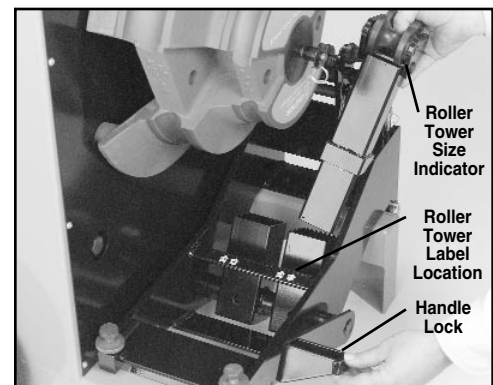

Figure 3
2. Select proper roller tower; the size is indicated on roller tower. To install, lift and hold the handle lock. Insert the roller tower into proper bridge opening so that the size indicator faces you. Allow roller tower to lean against tail roller. (See Figure 3.)